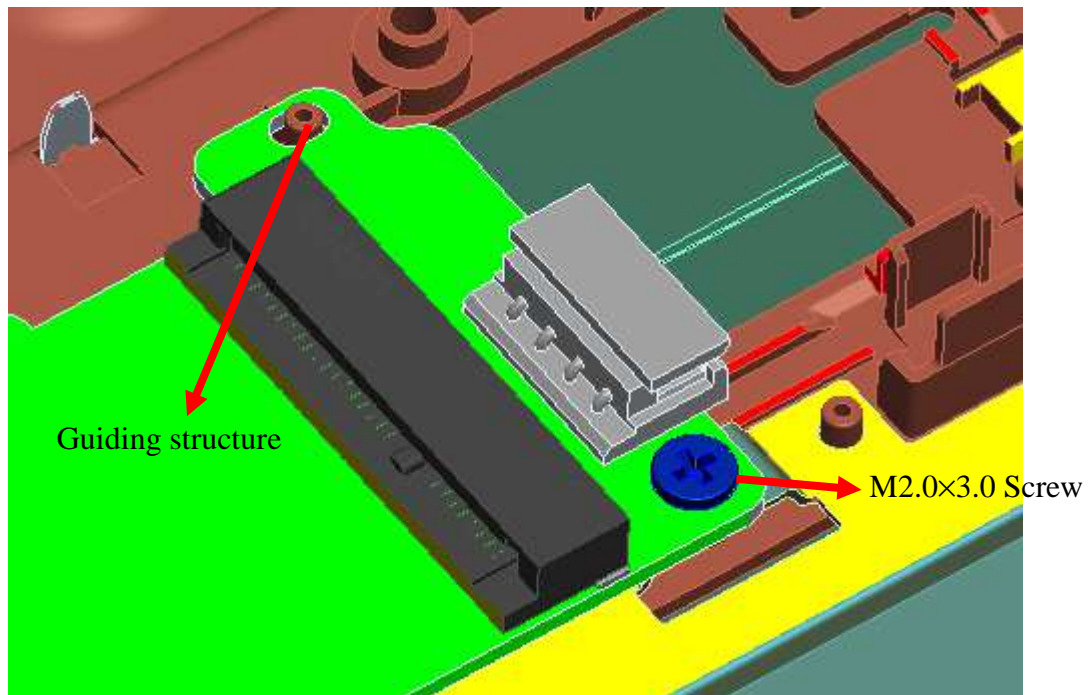

Figure 4-13-5 Put the guide pin (on Top assembly) insert into guide hole
3. Make sure the guide pin (on Top assembly) insert into guide hole (on System board) properly. (See Figure 4-13-5)
4. Securing the system board with the following screw.(See Figure 4-13-5)